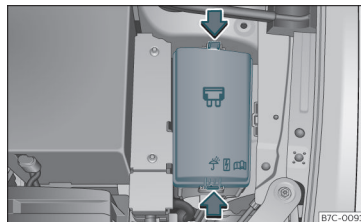

Fig. 47 In the engine compartment: fuse box cover.
- Press the locking tabs to release the fuse box cover»» **Fig. 47**.